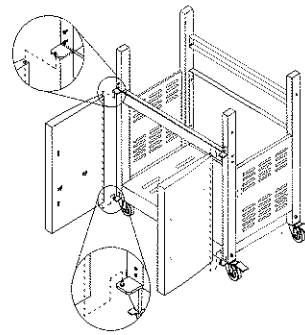

Figure 7
2. Install door panels to door fixing tabs. (Fig.7)